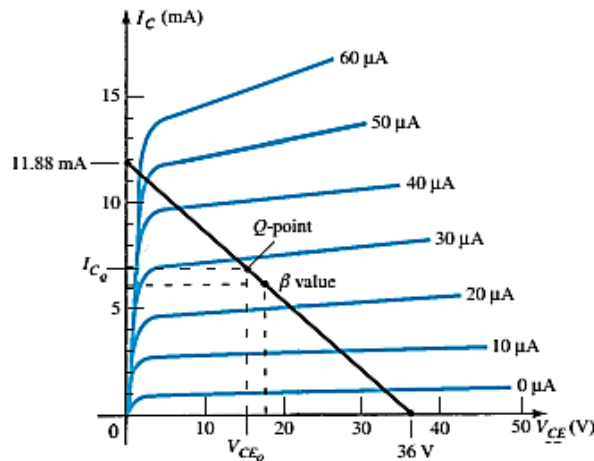

FIG. 4.45
- a. The load line is drawn on Fig. 4.45 as determined by the following intersections:
- d. From Fig. 4.45 the quiescent values are